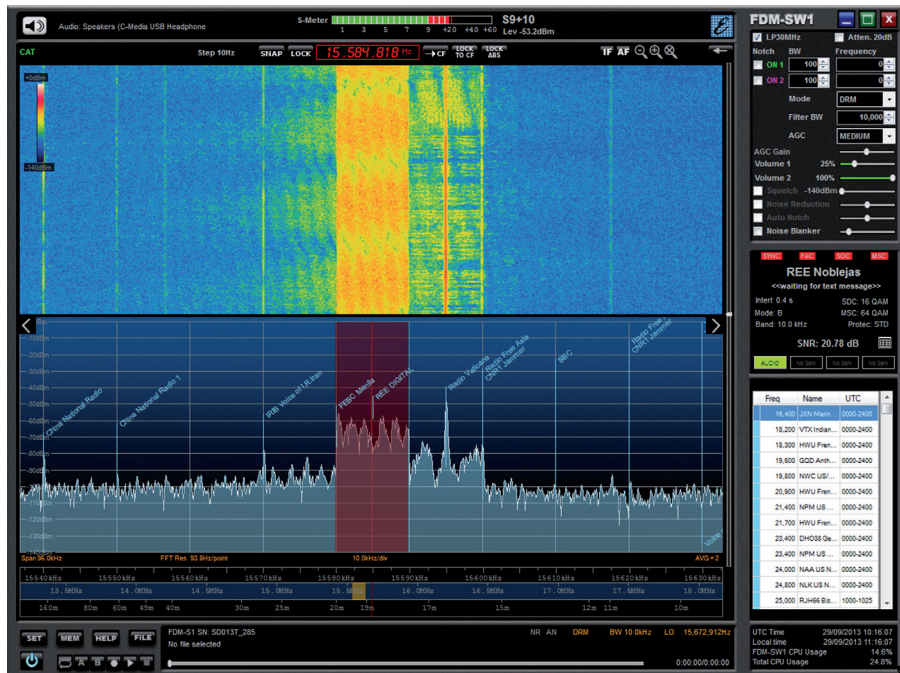

Fig. 3: A full screen display while receiving DRM.
The range of demodulation modes included was excellent and included synchronous amplitude modulation (AM), double sideband (DSB), wideband frequency modulation (FM) and DRM as well as the usual single sideband (SSB) and Morse (CW) options. Inclusion of a DRM decoder was a very welcome extra and the decoder included a display of programme information and signal status – see Fig. 3.